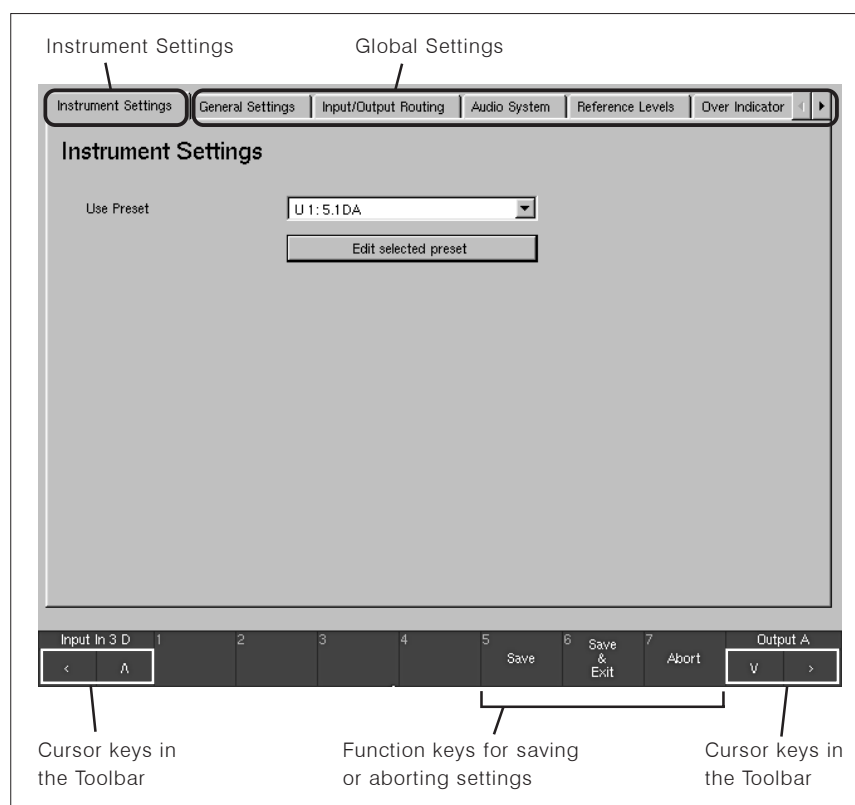

Fig. 4-1: Menu start page of the SurroundControl 30900(-24)
The button/key MENU opens the start page (the menu tab shown in Fig. 4-1) for the Instrument Settings and the device or Global Settings(all the other tabs, see Fig. 4-1).
See Fig. 4-1 and Chapters 4.4, 4.13 and 4.14
**Instrument Settings** (see Fig. 4-1 and Chapters 4.4, 4.13 and 4.14)
See Fig. 4-1 and Chapters 4.5 to 4.12
### **Global Settings** (see Fig. 4-1 and Chapters 4.5 to 4.12)
(Button/key 5, see Fig. 4-1)
(Button/key 6, see Fig. 4-1)
(Button/key 7, see Fig. 4-1)